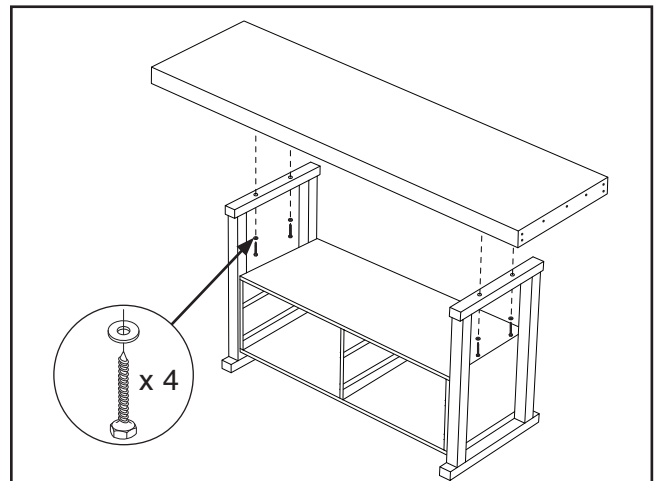

Figure 10. Fastening workbench top to frame.
11. Place workbench top onto workbench frame and secure with (4) M8 x 60 lag bolts and (4) 8mm flat washers (see **Figure 10**).